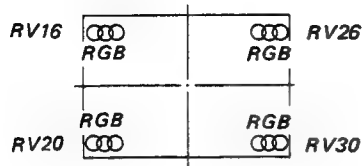

Fig. 1-15.
6. Adjust RV16, RV20 and RV26, RV30 on the DC board to coincide with the R, G and B dots as shown in Fig. 1-15.